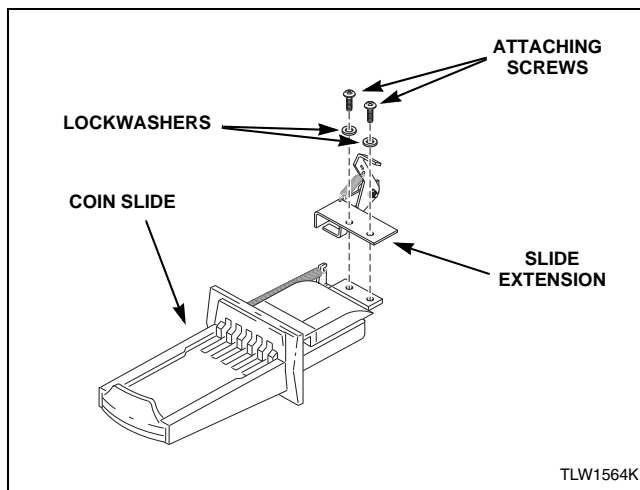

Figure 37
1. Install slide extension onto top of coin slide using two remaining screws and lockwashers. Refer to *Figure 37*.
3. Install slide extension onto top of coin slide using two screws and lockwashers. Refer to Figure 37.